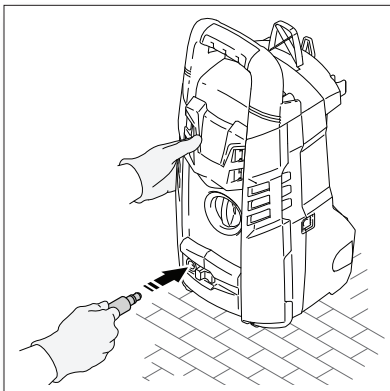

Fig. 3
- Attach the 20' high pressure hose to the unit by pressing firmly into the front port **(Fig. 3)**.